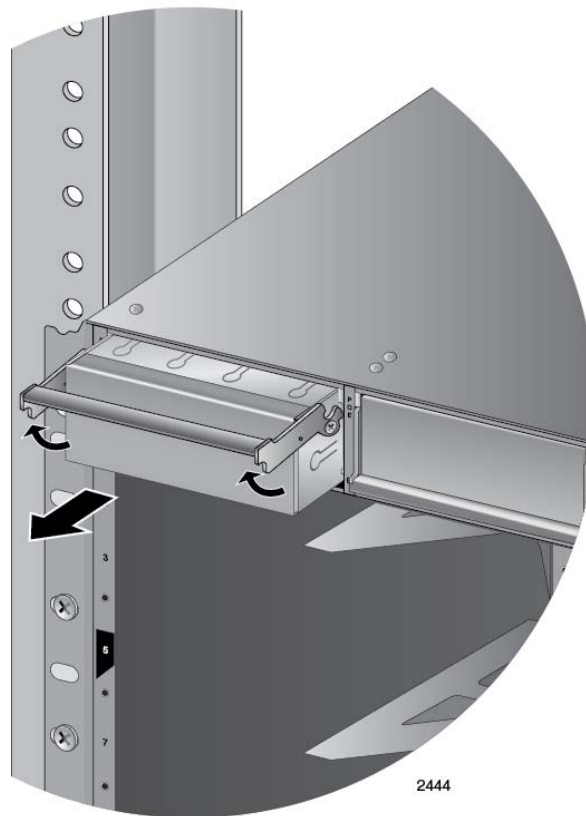

Figure 50. Removing the Blank Slot Cover from Power Supply Slot A
2. Raise the handle on the blank panel covering the selected slot and slide the panel from the chassis. Figure 50 on page 96 illustrates the removal of the blank panel from slot A.